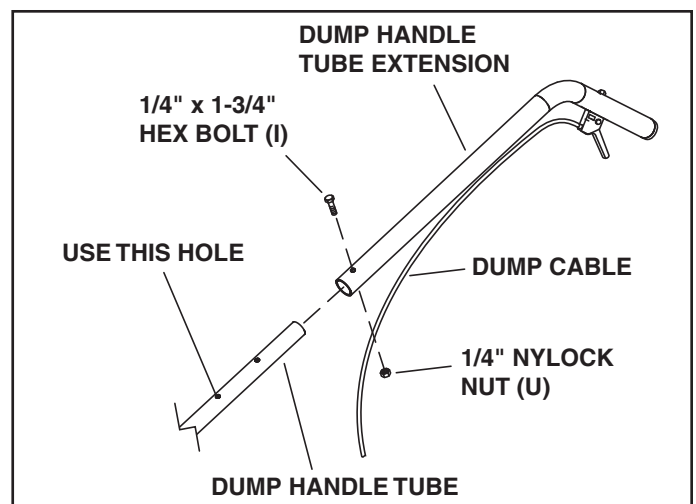

FIGURE 15
STEP 16: INSTALL DUMP HANDLE TUBE EXTENSION (SEE FIGURE 15)
- Install the dump handle tube extension on the dump handle tube using a 1/4" x 1-3/4" hex bolt (I) and 1/4" nylock nut (U).
- Attach the dump cable to the dump handle tube using three cable ties (OO).